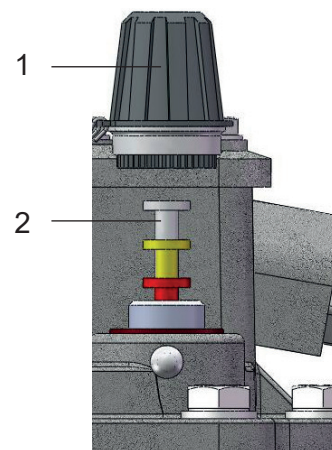

Figure 10 - Test key
- Remove the large cap nut (Fig. 10/ N° 1)
- Press the test key (Fig. 10/ N° 2) half down and keep depressed (check of upper switching system - alarm)